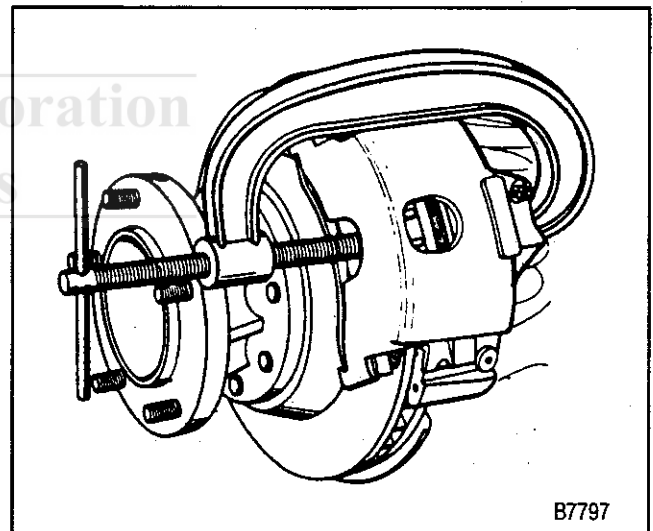
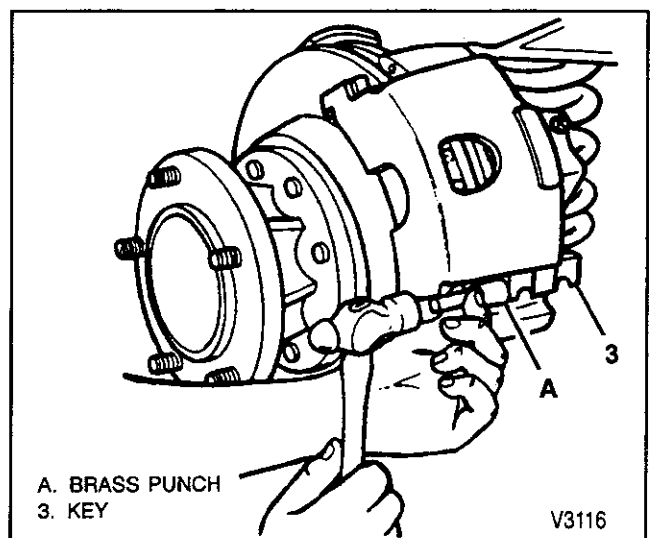

Figure 5—Compressing the Caliper Piston
Figure 6—Removing the Caliper Support Key
5. Position a C-clamp and tighten until piston bottoms in bore (figure 5).
8. Bolt (2).
9. Support key (3) and spring (4) (figure 6).